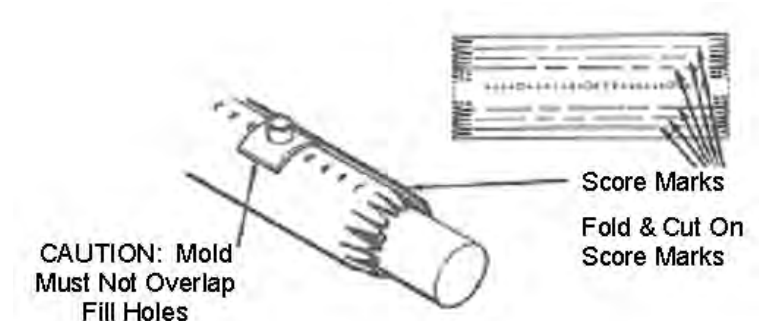

Figure 6
3. On small cables, where mold overlaps fill-holes, reduce mold width by folding, then cutting on appropriate score marks. (Figure 6)